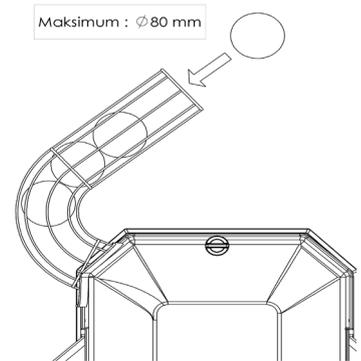

Figure 4
**Caution:** Never squeeze fruits exceeding  $\varnothing 80$  mm in this machine. Only recommended (orange, tangerine, grapefruit, lemon) fruit should be squeezed which diameter are  $\varnothing 60$  to  $\varnothing 80$  mm **(Figure 4)**